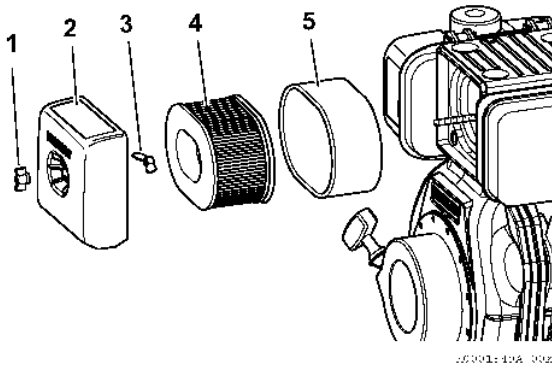

Figure 72
1. Remove the wing nut (**Figure 72, (1)**).
2. Remove the air cleaner cover (**Figure 72, (2)**).
3. Remove the wing nut (**Figure 72, (3)**).
4. Remove the air cleaner element (**Figure 72, (4)**) and outer foam element (**Figure 72, (5)**).
8. Clean the inside of the air cleaner cover (**Figure 72, (2)**).
9. Reinstall the air cleaner element (Figure 72, (4)) into the air cleaner housing.
10. Slide the outer foam element (Figure 72, (5)) over the air cleaner element (Figure 72, (4)).
11. Reinstall the wing nut (Figure 72, (3)) and hand-tighten. Over-tightening the wing nut will damage the air cleaner assembly.
12. Reinstall the air cleaner cover (Figure 72, (2)).
13. Reinstall the wing nut (Figure 72, (1)) and hand-tighten. Over-tightening the wing nut will damage the air cleaner assembly.